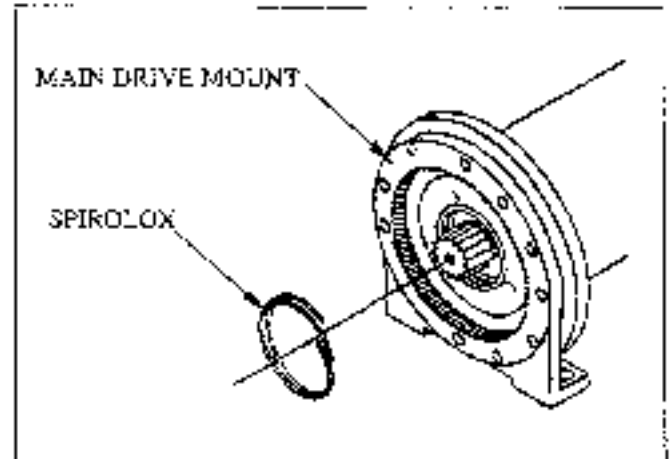

Figure 31
9. Install the main drive mount onto the drum hub. Install the sprolox retaining ring. See Figure 31.